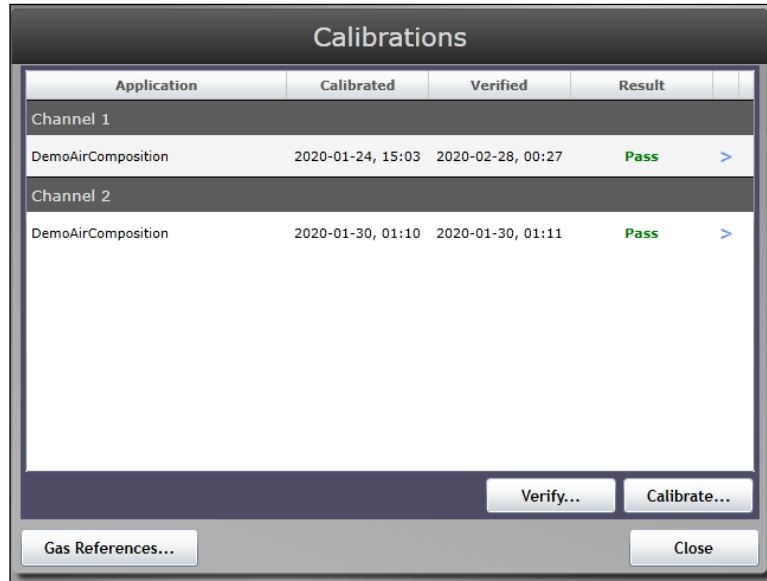

Figure 88. Verification updated
3. When the verification is complete, the Calibrations screen (Figure 88) appears showing the results of the verification.
2. Click the **Calibrate** button on the Calibrations screen (Figure 88).
9. Replacing a Calibration Bottle. When an existing calibration gas bottle is being replaced, pressing the **Gas References** button (Figure 88) allows the user to update the reference or calibration gas composition for the channel(s) using that gas.